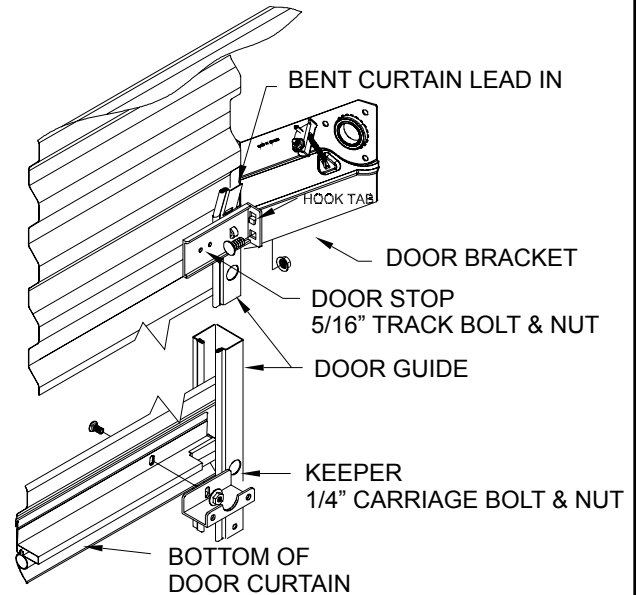

Figure 7
6.1 Remove whiz nut from each side of door bottom bar (See Figure 7).
6.4 Slide the stops up into position so that the hook tab mates with the upper hole on the stop (See Figure 7). Fasten each door stop to each bracket as shown using one (1) 5/16" track bolt and nut through the lower hole of the stop.